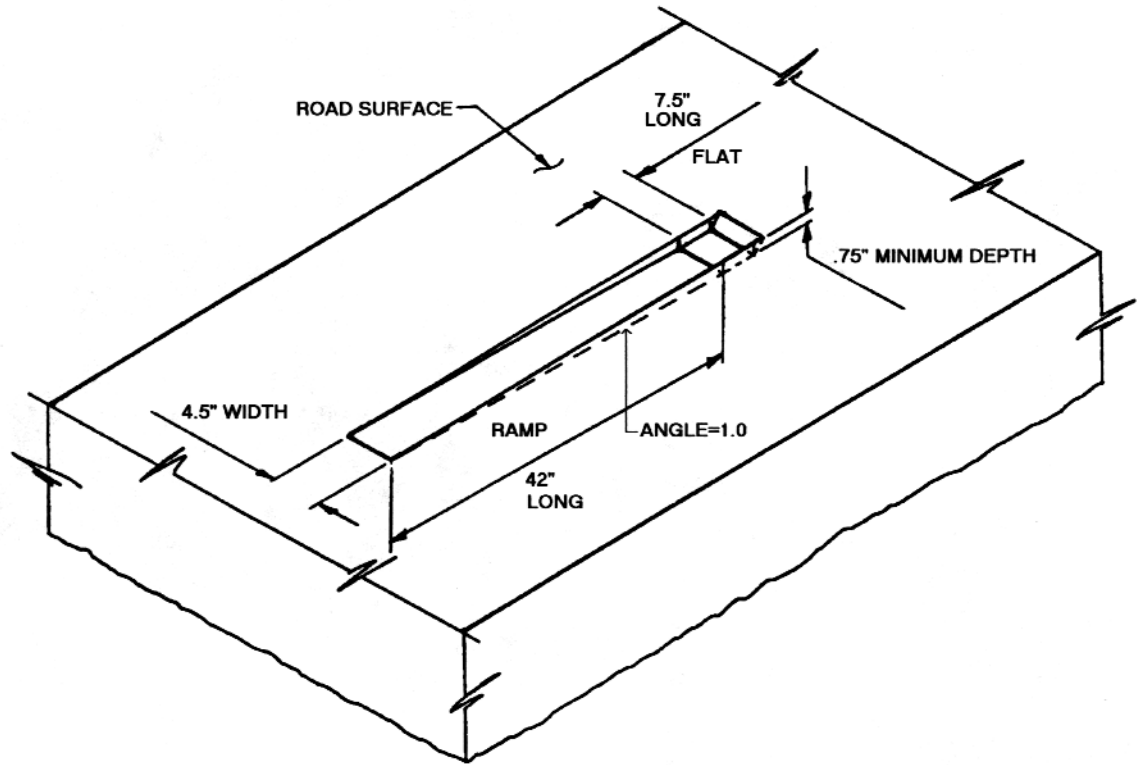

Figure 1 - One Way Marker Application
3. Groove depth - Tapered to a depth of 3/4 inch (1.9 cm) minimum. Typically, the range of depth for the groove is between 0.75 inches (1.9 cm) and 0.90 inches (2.3 cm). The height of the marker plus adhesive pad should not exceed the top of the pavement surface. The slope of the groove is 1.0 degree and the length of the ramp to the application surface is 42 inches (1.07 m) (See Figures 1, 2, and 3).